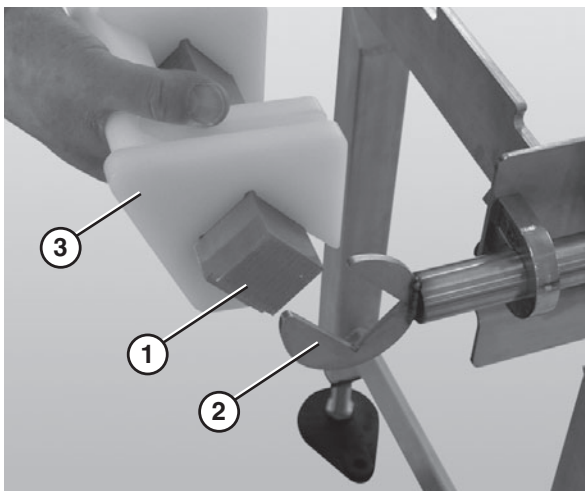

Figure 74
- Slide the nose bar drive or transfer post (**Figure 74, item 1**) out of the nose bar drive weldment or idler hands (**Figure 74, item 2**).
- Remove the nose bar tracking pucks (**Figure 74, item 3**), if applicable.